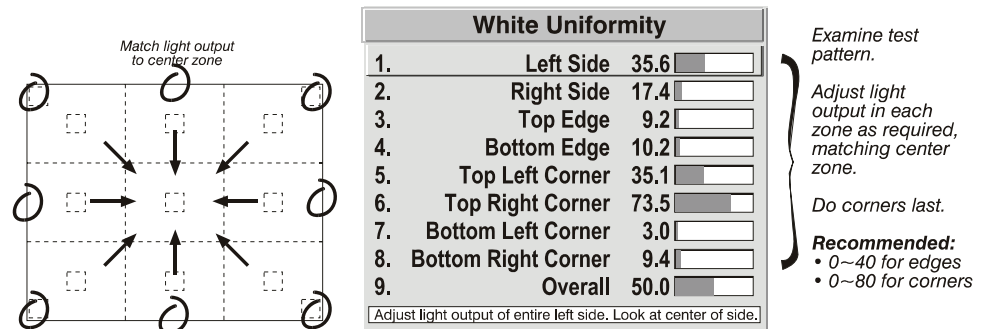

Figure 3.22. Match Zones to Center Light Output
- 3a) For each screen, compare the light output of each *edge* and *corner* to that of the *center*. If any of the areas differ, use the *White Uniformity* menu to match edges and corners to the center as described below (see Figure 3.22). Begin with the screen exhibiting the most obvious variations in light output.